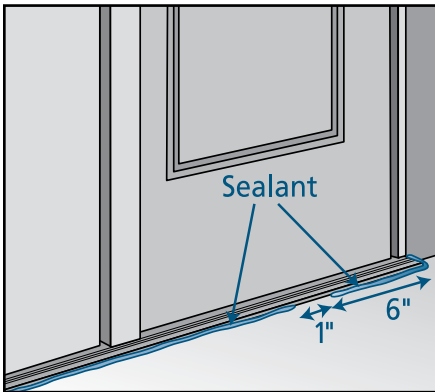

Fig. 47
- Apply a **1/4"** bead of sealant underneath the sill, leaving a **1"** gap **6"** from each end (**Fig. 47**).For doors on continuous slab: